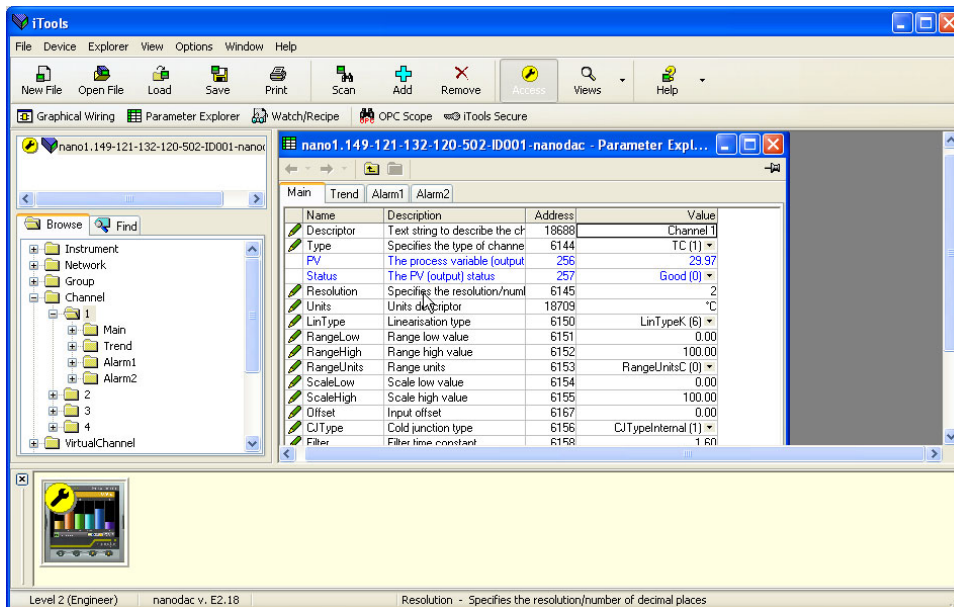

Figure 180 Parameter table example
In each case the function block parameters appear in the iTools window in tabular form, such as the example in Figure 180, below.
- Columns. The default explorer window (Figure 179) contains the columns ‘Name’, ‘Description’, ‘Address’, ‘Value’, and ‘Wired From’. As can be seen from Figure 180, the columns to be displayed can be selected, to a certain extent, using either the ‘Explorer’ menu or the context menu.